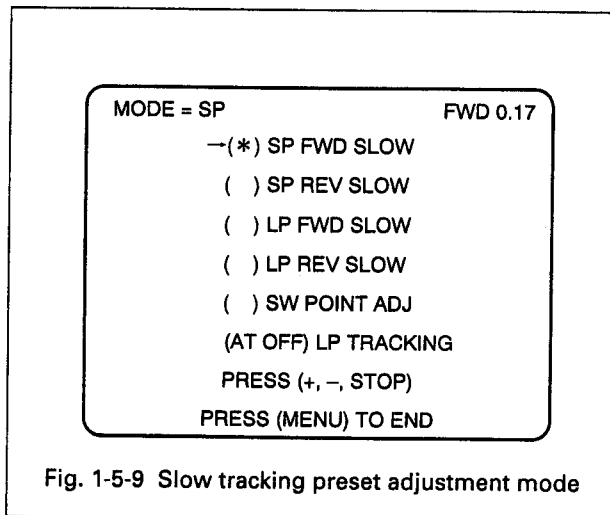

Fig. 1-5-9 Slow tracking preset adjustment mode
5. Press the **SET** button to enter the VTR into the SERVO adjustment mode. (Refer to Fig. 1-5-9.)